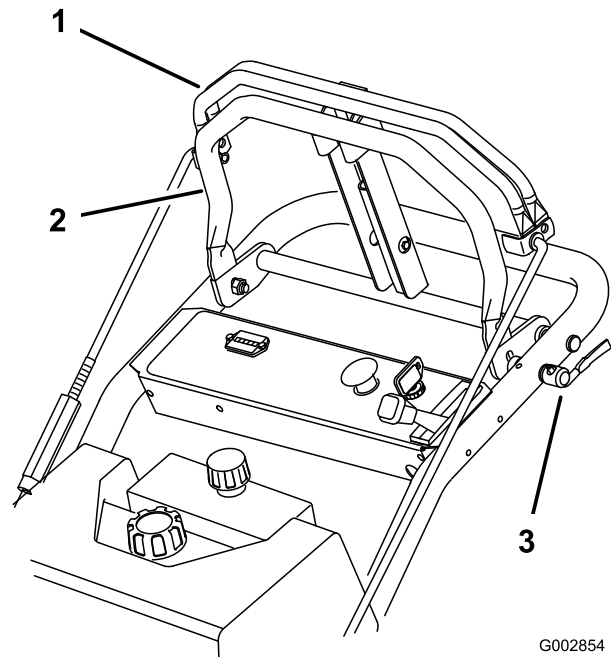

Figure 15
1. Place the quick release levers in the unlock position (Figure 15).
2. Move the reference bar forward or backward to set the desired forward speed. The pointer indicates approximate ground speed (Figure 15). When the bar is in the full forward position the ground speed is approximately 6 mph. When the reference bar is in the middle position the ground speed is approximately 3 mph.
3. Place the quick release levers in the lock position (Figure 15).
1. To go forward, slowly press on the upper control bar against the reference bar (Figure 15).
2. To go straight, apply equal pressure to both ends of the upper control bar (Figure 15).
3. To turn, release pressure on the upper control bar side toward the direction you want to turn (Figure 15).
4. Adjust reference bar to maintain a comfortable pre-set ground speed (Figure 15).
5. To stop, release the upper control bar to stop both wheels (Figure 15).
1. To go backward, slowly pull the control bar rearward (Figure 15).
4. To stop, release the upper control bar to stop both wheels (Figure 15).